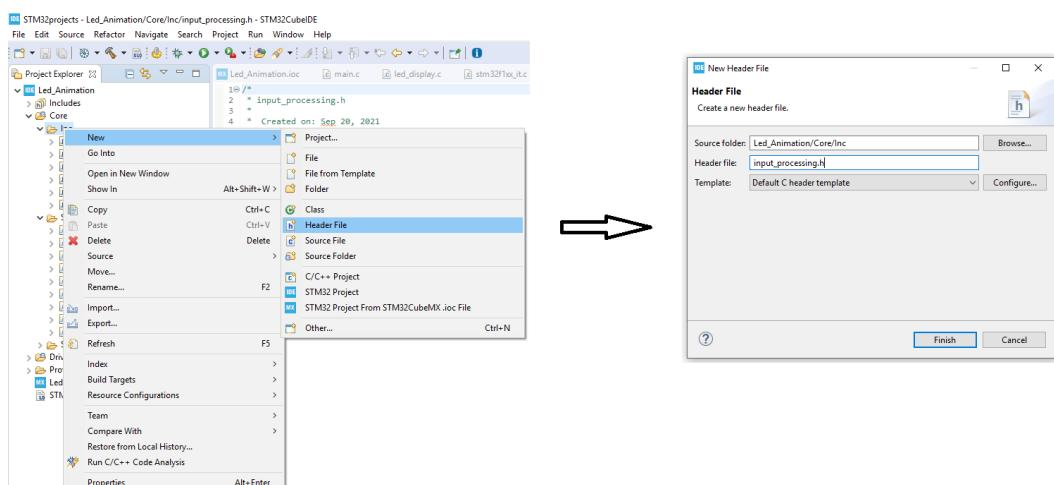

Figure 3.8: Step 2: Create a C header file for input processing
Step 2 (Figure 3.8): Do the same for the C header file in the folder **Inc**.